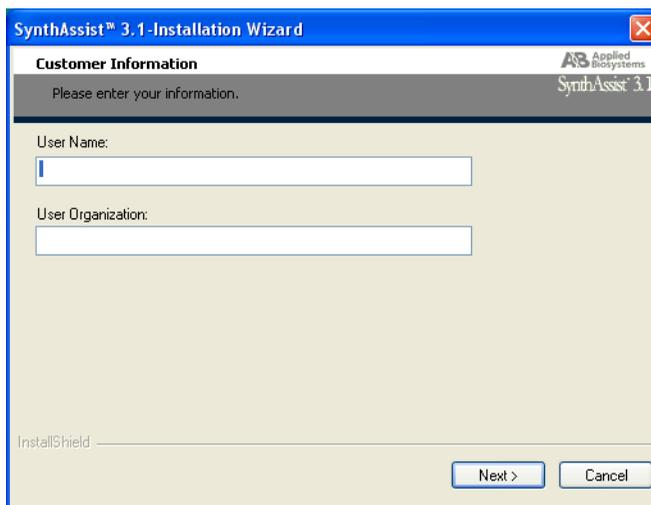

Figure 2-5 The Customer Information Screen
- At the Welcome screen (Figure 2-4), click **Next** to open the Customer Information screen (Figure 2-5).